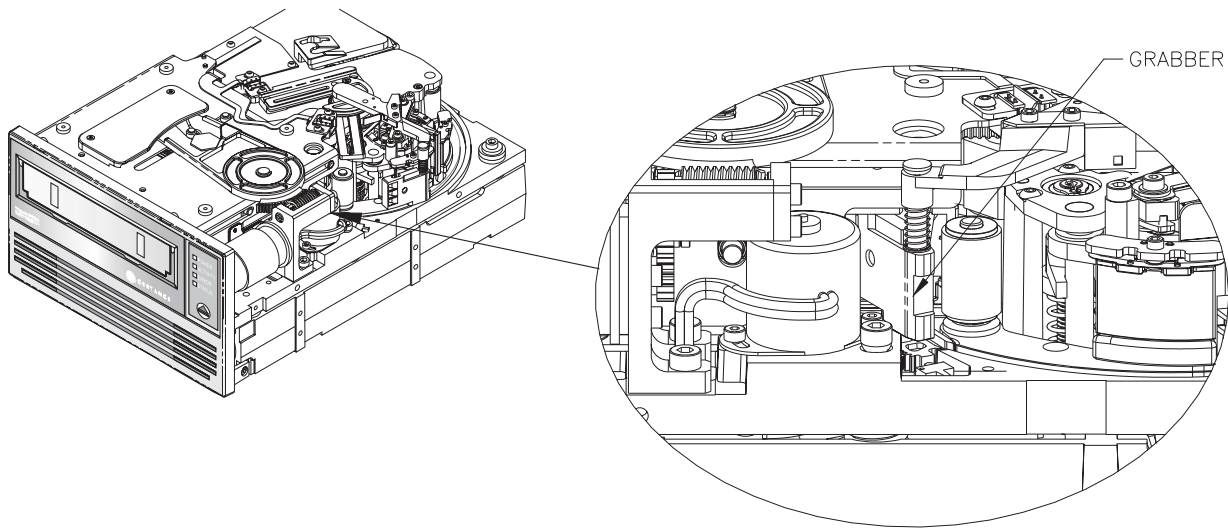

Figure 26. LTO-1 and LTO-2 drives Showing the Tape Grabber Near the Cartridge
9. Carefully push the grabber in toward the cartridge, as shown in Figure 26 on page 82.